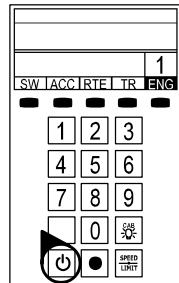

Figure 4. LEGACY start-up
5. **Press the Start Up button on your LEGACY CAB-2 Remote, shown in Figure 4. Then, throttle up and move 'em out!** Your engine sound will start up, and the locomotive-specific touch screen buttons will populate the remote. For more information on operating your locomotive with the LEGACY system, please refer to the LEGACY section of this manual. Additional information is also found in the LEGACY System Manual, available online at [www.lionel.com](http://www.lionel.com).